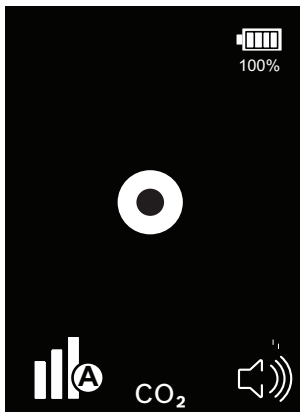

Fig. 6: Steady state
- ⇒ The IR LD 1.0 will emit a steady alarm in synchronization with the flashing of the center circle (see Fig. 6).